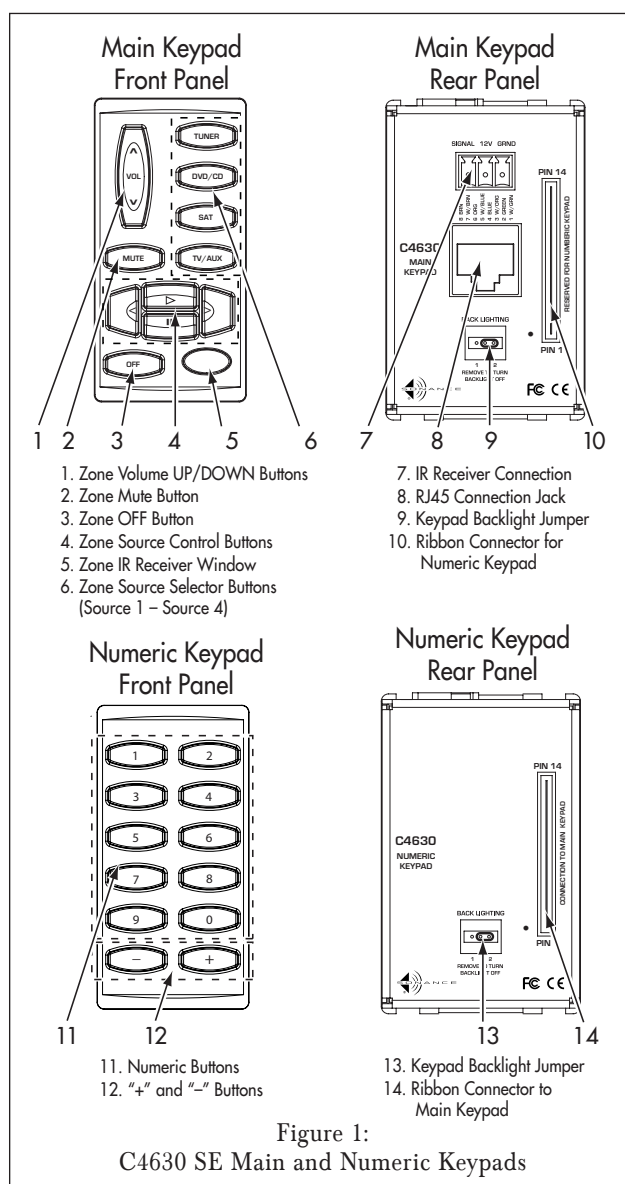
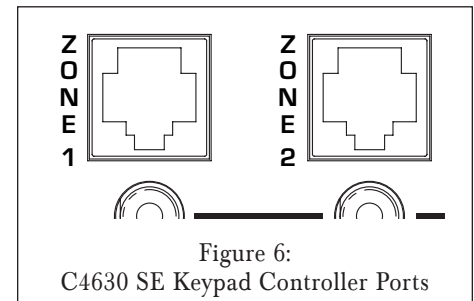

Figure 1:
Figure 6:
C4630 SE Main Keypad (see Figure 1)
C4630 SE Numeric Keypad (see Figure 1, on page 1)
4. Connect the CAT5/RJ45 cable to the RJ45 Connection Jack on the back of the Main Keypad (see *Figure 1*, on page 1) and to the zone's Keypad Controller Port on the C4630 SE (see *Figure 6*).